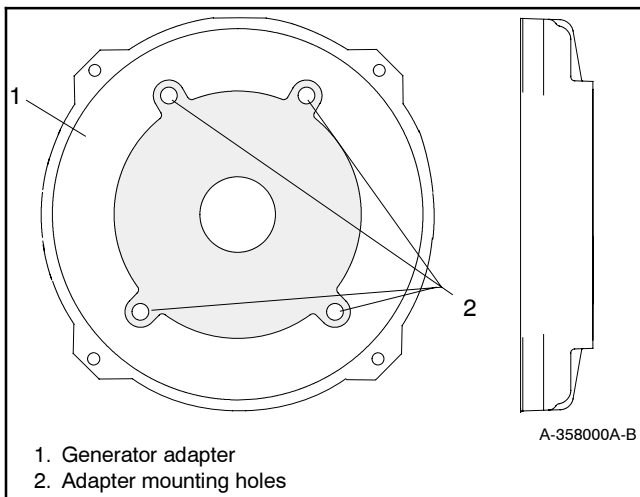

Figure 6-17 Generator Adapter
30. Remove the four generator adapter mounting bolts to remove the generator adapter. See Figure 6-17.
- a. Attach the generator adapter to the engine using four 7/16-14 x 1.0 in. hex cap bolts and washers. See Figure 6-17.